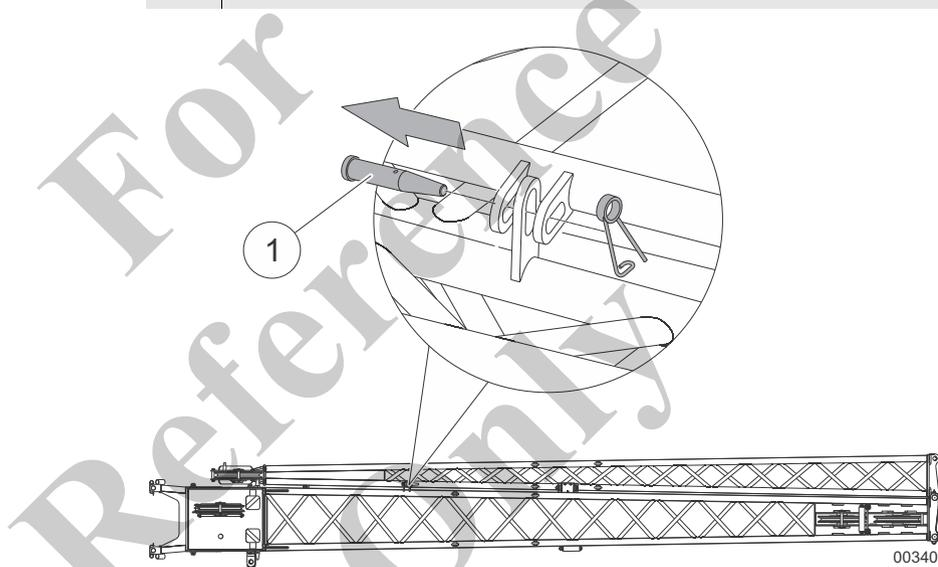

Fig. 169 Unbolting the fly boom extension
11	Release and remove the bolt (1) in Fig. 169 on the fly boom.